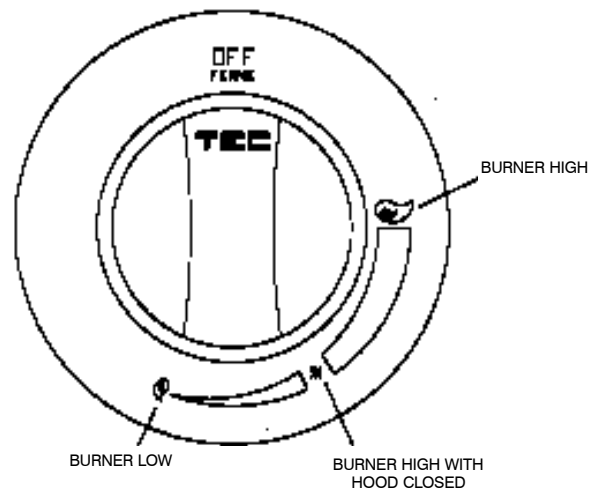

Figure 13. Burner Output Knob
5. Rotate the Burner Output Knobs to  (HIGH). (See Figure 13.) If the burners do not ignite within 5 seconds, turn Burner Output Knobs to OFF and wait 5 minutes, and repeat.